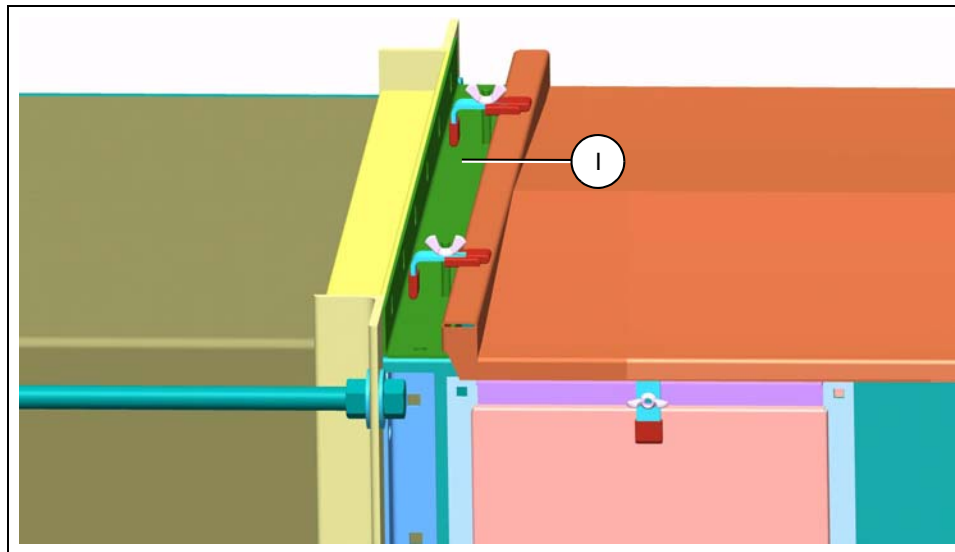

Figure 4E
5. A special cover channel is provided with the tail as shown in Figure 4E.